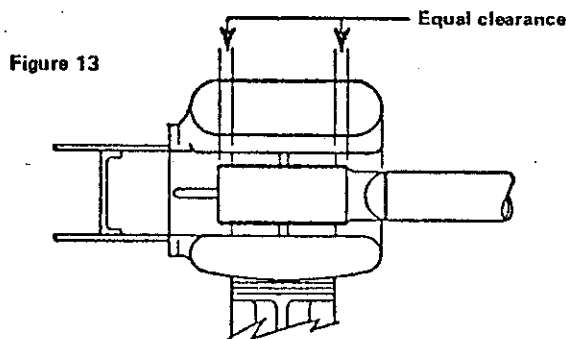

Figure 13
3. The silver on the jaw contact leaves must be centered on the silver strips of the blade tip. (Figure 13) -- If proper contact centering is not observed, adjust the jack screws of the jaw insulator to tilt the jaw fore or aft (on the base centerline) to center the contact surfaces.